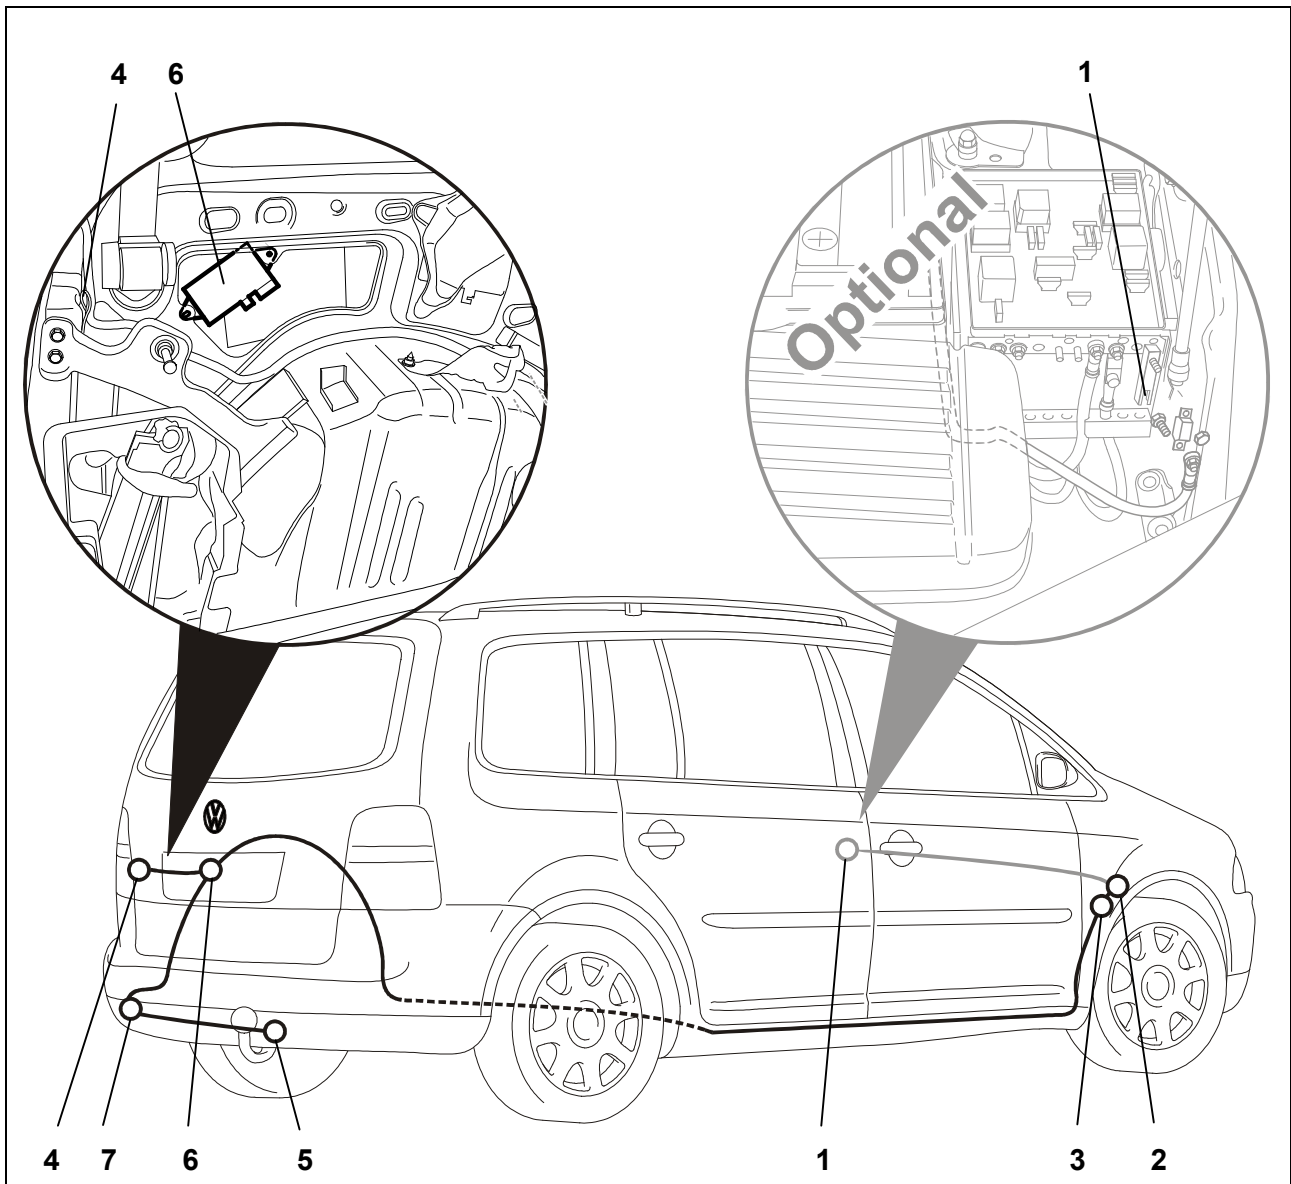

Fig. 1: Installation overview
3. Remove the vehicle's 40 mm hole cover in the side plate on the left-hand side at the rear of the vehicle (Fig. 1/7).
4. Fasten the trailer connection unit in its intended place in the vehicle's rear area on the left side using the supplied fastening screws, washers and nuts (Fig. 1/6).
5. Lay the cable end with the 16-pin plug from the outside through the cable leadthrough to the trailer connection unit (Fig. 1/6). Lay the other end to the socket holder plate (Fig. 1/5).
6. Insert the rubber grommet into the cable leadthrough (Fig. 1/7).
8. Screw the socket onto the holding plate (Fig. 1/5) using the supplied screws.
9. Insert the 16-fold connector housing into the intended slot of the trailer connection unit (Fig. 1/6) and let it lock into place.
10. Insert the 12-fold connector housing of the eight-core cable set into the intended slot of the trailer connection unit (Fig. 1/6) and let it lock into place.
11. Connect the brown wires with the eyelets to the vehicle's ground point (Fig. 1/4).
12. Route the 8-core cable set across from left to right along existing cable looms / cable ducts on the driver's side up to the control unit for the vehicle electrical system in the driver's footwell (Fig. 1/2).
20. Push open the purple latch on the fuse carrier (Fig. 1/3).
24. Lay the cable end with the cable lug through a suitable opening in the mounting plate bush to the constant plus distributor (Fig. 1/1) of the central electrical system in the engine compartment.